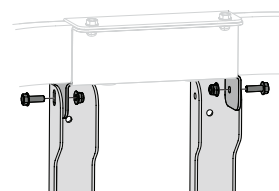

Figure 8
4. Working from outside-in, secure mounting plate/strut bracket assembly to keeper bracket with two hex head screws (710-1238) and two lock nuts (712-04063). See Figure 8.